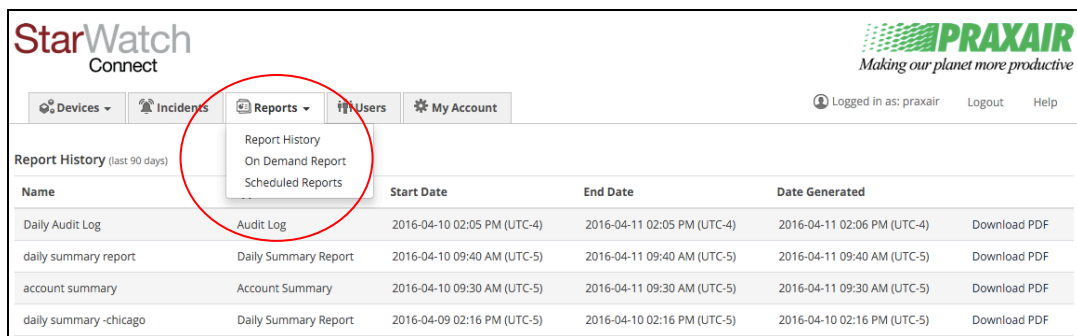

Figure 11: Reports Screen Example
1. Select the  tab, which displays a dropdown menu with three report options (see Figure 11).